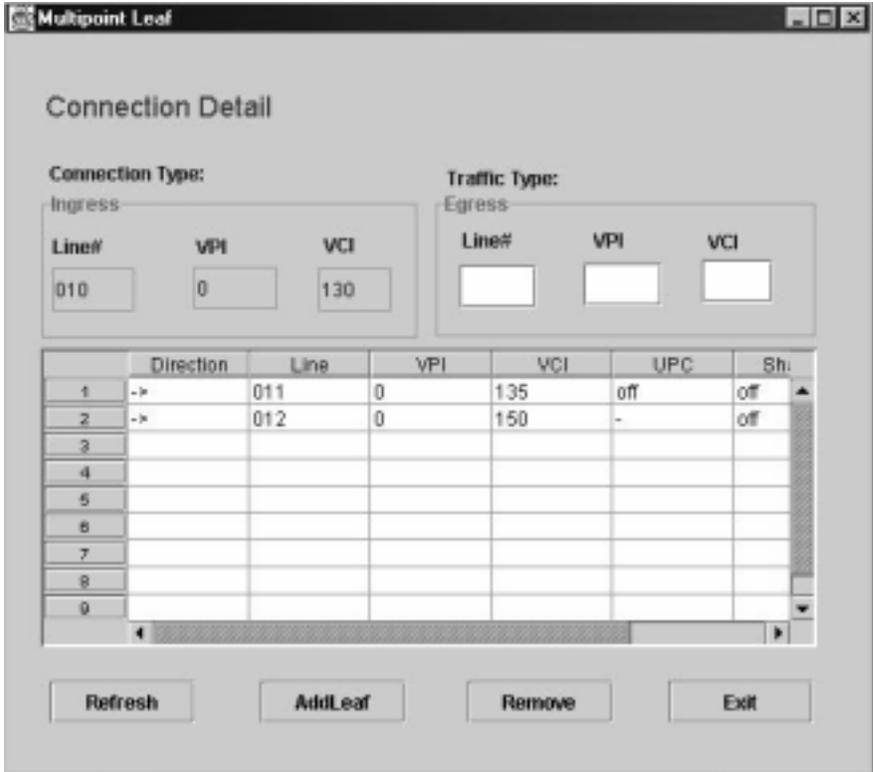

Figure 7-6: Connection Detail Panel
2. Click **LEAF**. The **Connection Detail** panel displays. See Figure 7-6.